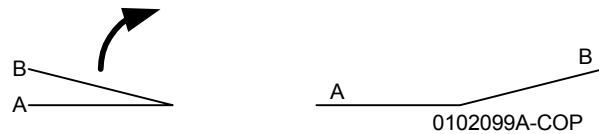

Figure 1 Staple Position
- Measure A and B on both Booklet jobs and verify X1 against specification in **Figure 1**.
- Check output against specifications in Figure 1. Repeat steps 4 - 8 until the Staple Position meets specification or customer request.